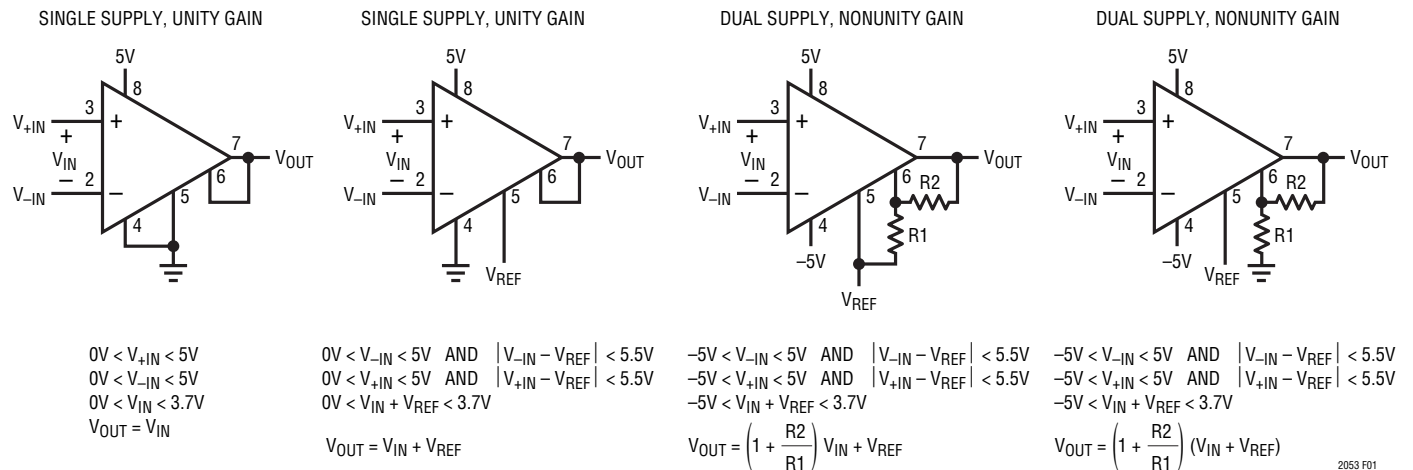

Figure 1
**RG** (Pin 6): Inverting Input of Internal Op Amp. See Figure 1.
**OUT** (Pin 7): Amplifier Output. See Figure 1.